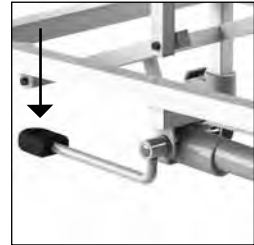

Figure 7: Moving upwards
- The shower stretcher / dressing table moves gently and evenly upwards as a result of tapping the foot-pedal (See figure 7).